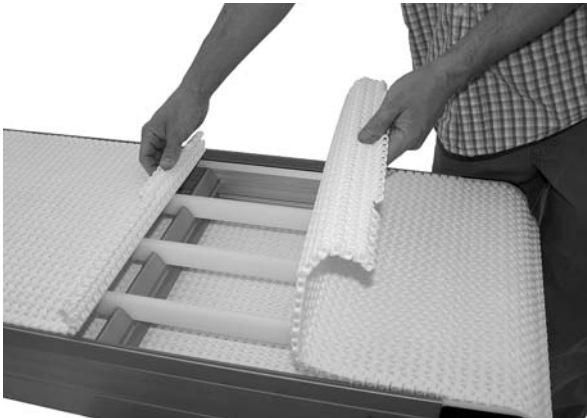

Figure 19
7. Bring the ends of the belt together (Figure 19).